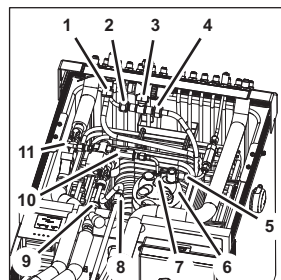

Figure 77
2. Disconnect the water input line (Figure 77/11) on the coupling (Figure 77/2) from the T-fitting of the water inlet pressure reducing valve (Figure 77/3).
3. Disconnect the connecting line from the non-return valve of the solenoid valve (Figure 77/10) to the carbonator tank (Figure 77/6) from the coupling (Figure 77/7).
4. Lift the water input line (Figure 77/11) with the connecting line from the non-return valve of the solenoid valve (Figure 77/10) to the carbonator tank (Figure 77/6) out of the unit.
5. Disconnect the pre-cooling coil from the coupling (Figure 77/4).
6. Disconnect the soda water circulation line (return) from the coupling (Figure 77/1).
7. Disconnect the CO₂-IN line from the coupling (Figure 77/5).
8. Disconnect the soda water line to the circulation pump from the push-in fitting (Figure 77/9).
9. Disconnect the connecting line from the carbonator pump to the pre-cooling coil from the coupling (Figure 77/8).
20. Attach the connecting line from the carbonator pump to the pre-cooling coil to the coupling (Figure 77/8).
21. Attach the soda water line to the circulation pump to the push-in fitting (Figure 77/9).
22. Attach the CO₂-IN line to the coupling (Figure 77/5).
23. Attach the soda water circulation line (return) to the coupling (Figure 77/1).
24. Attach the pre-cooling coil to the coupling (Figure 77/4).
25. Position the water input line (Figure 77/11) with the connecting line from the non-return valve of the solenoid valve (Figure 77/10) to the carbonator tank (Figure 77/6) within the unit.
26. Attach the connecting line from the non-return valve of the solenoid valve (Figure 77/10) to the carbonator tank (Figure 77/6) to the coupling (Figure 77/7).
27. Attach the water input line (Figure 77/11) on the coupling (Figure 77/2) to the T-fitting of the water inlet pressure reducing valve (Figure 77/3).